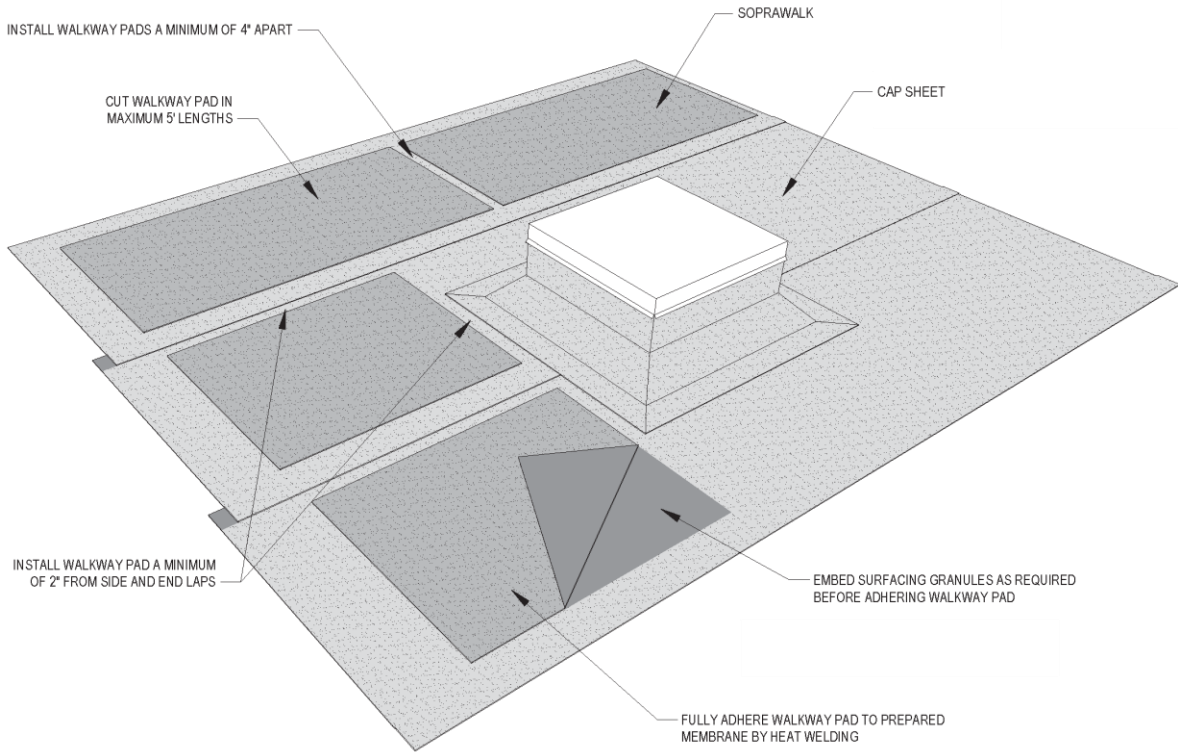

Figure 5.1a Fully Adhered, Heat Welded Walkway Membrane on Granule Surfaced Cap Sheet
- Install walkway using one of the prescribed installation methods. Refer to Table 5.1a and Figures 5.1a through 5.1d.